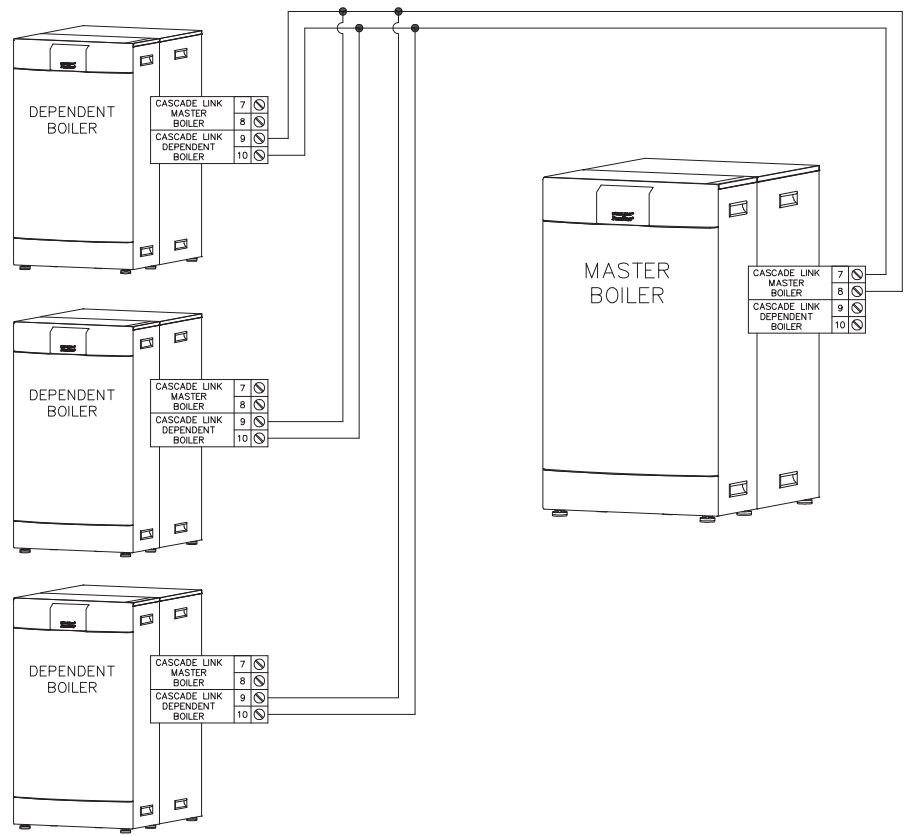

Figure 8.54: Multiple Boiler Wiring – Independent Connection to each Dependent Boiler
- b. Figure 8.54 shows the master boiler connected to each dependent boiler. This method creates independent connections to each dependent boiler.
- f. The central heating (CH) circulating pump(s) should be connected to the master boiler if they are intended to be controlled by the boiler system.